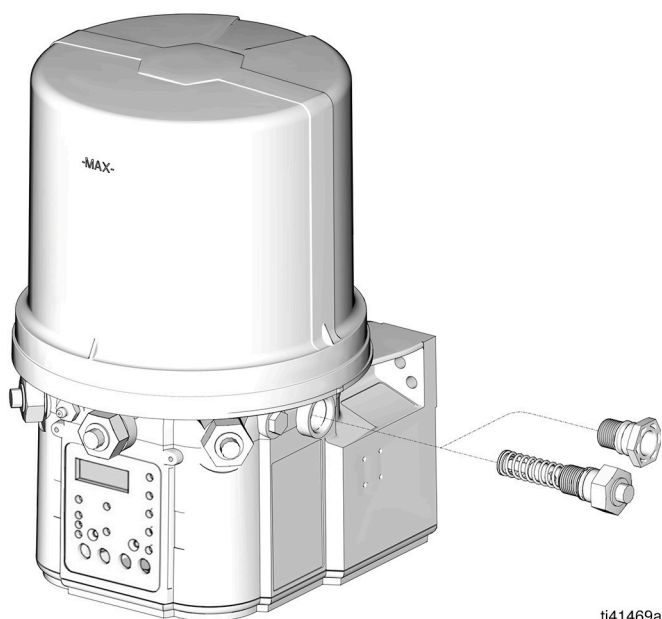

FIG. 11
3. Remove the pump element and replace with a plug (torque fitting to 50 in-lb (5.6 N•m)) (FIG. 11).